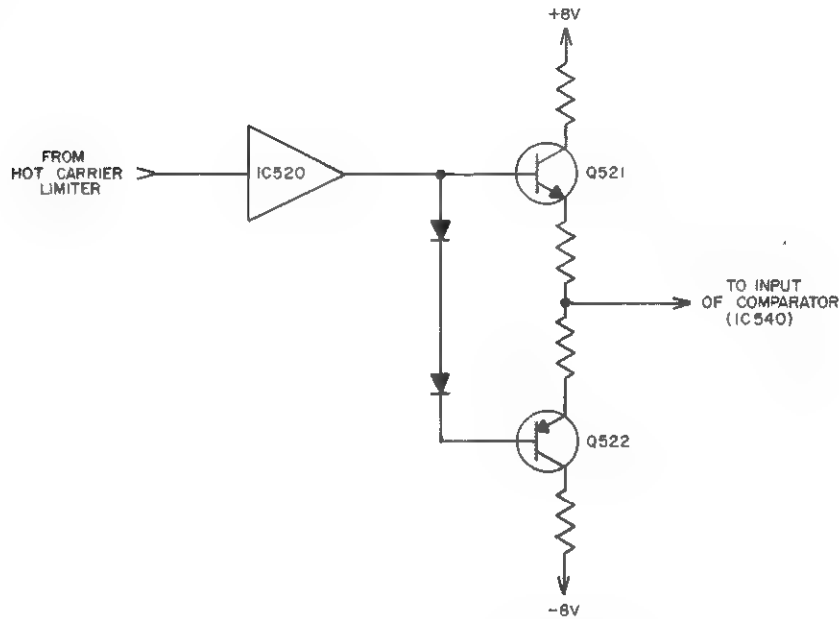

Figure 10. Linear Amplifier
4.5 LINEAR AMPLIFIER (see figure 10)